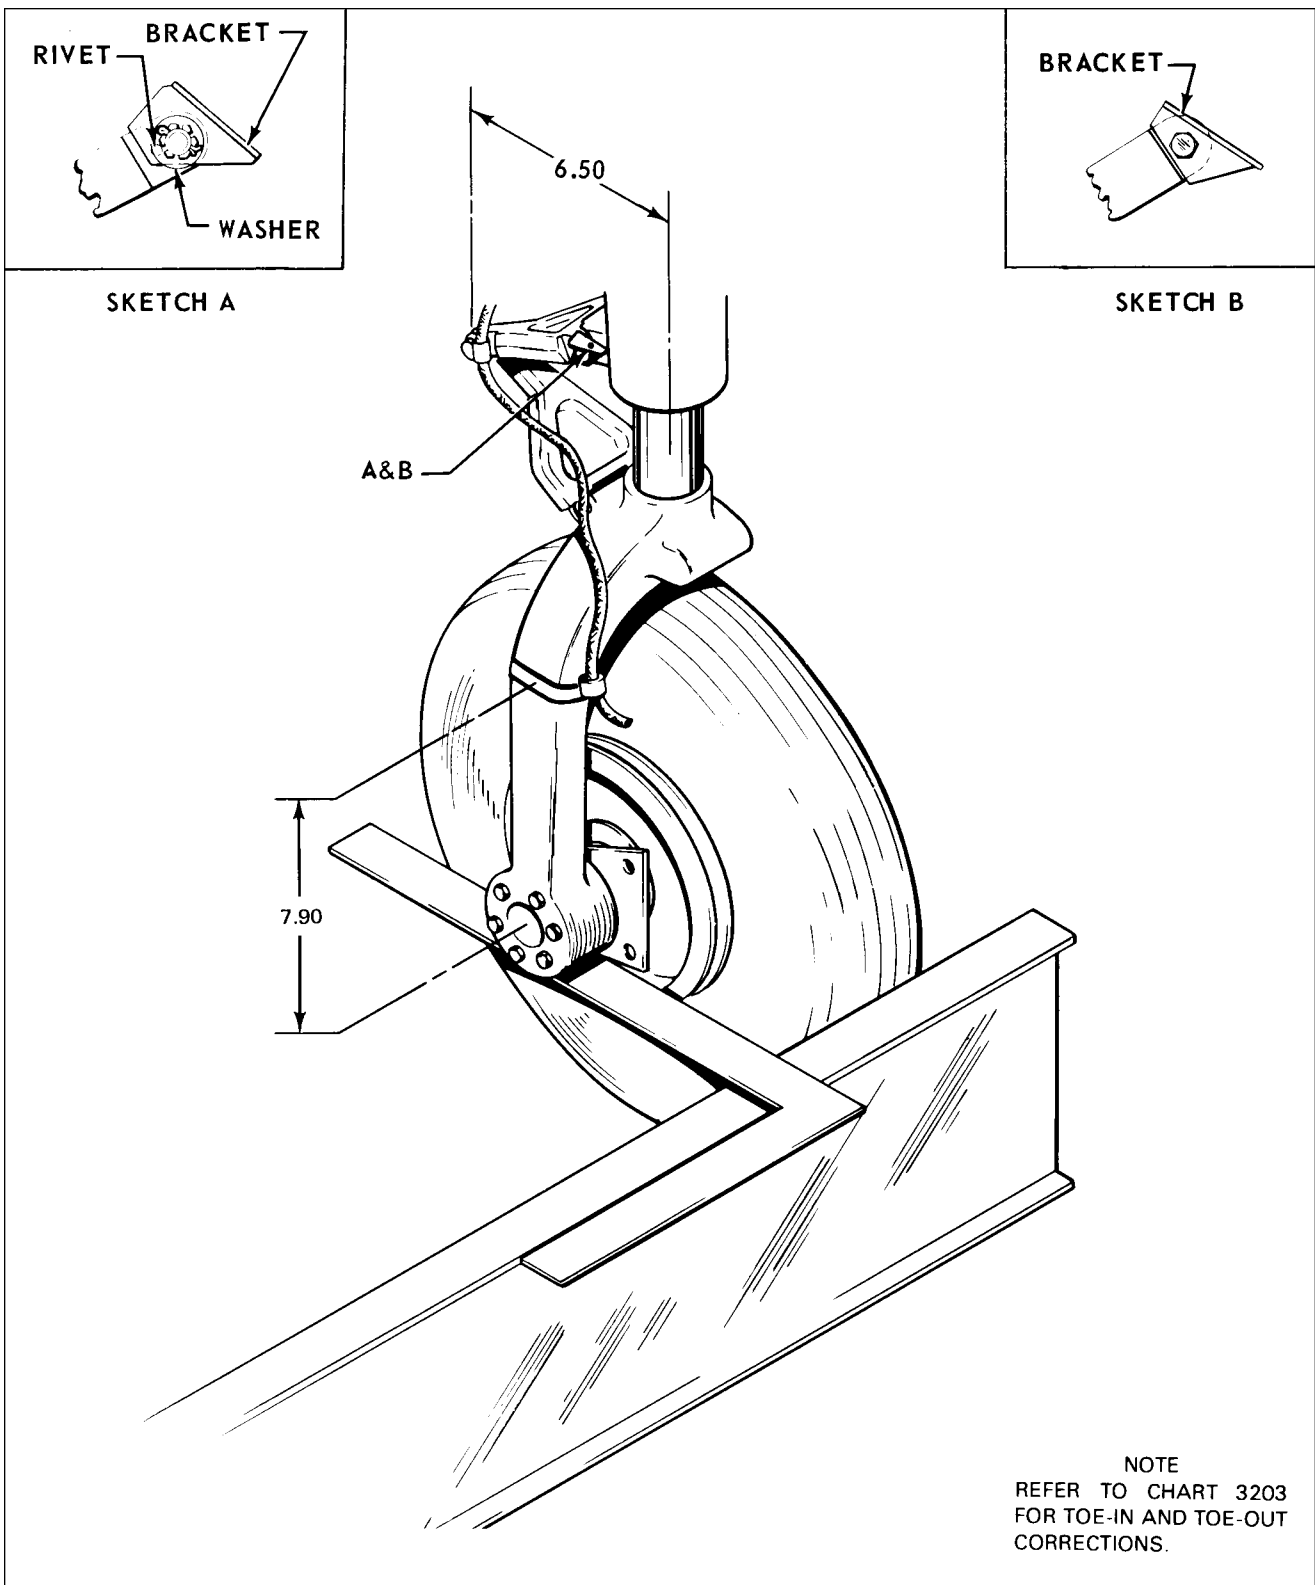

Figure 32-3a. Aligning Main Gear
1. Place a straightedge no less than twelve feet long across the front of both main landing gear wheels. Butt the straightedge against the tire at the hub level of the landing gear wheels. Jack the airplane up just high enough to obtain a six and one-half inch dimension between the centerline of the strut piston and the centerline of the center pivot bolt of the gear torque links. (Refer to Figure 32-3a.) Devise a support to hold the straightedge in this position.
2. Set a square against the straightedge and check to see if its outstanding leg bears on the front and rear side of the brake disc. (It may be necessary to remove the brake assembly to have clear access to the disc.) (Refer to Figure 32-3a.) If it touches both forward and rear flange, the landing gear is correctly aligned. The toe-in for the main landing gear wheels is $0 \pm 1/2$ degrees.
7. If a new link on the top left main gear had to be installed or it had to be reversed during the alignment check, it will be necessary to check the gear safety switch (squat switch) bracket for engagement and locking in place. If the large machine surface of the link is inboard, the bracket is mounted with the small rivet hole next to link. (Refer to Sketch "A," Figure 32-3a.) This should be aligned on the centerline of link and hole drilled to .096 of an inch, .15 of an inch deep. Insert an MS20426AD3-3 rivet in the hole. This locking rivet is held in place by the flat washer, castellated nut and cotter pin. If link has to be reversed, then the bracket and bolt are also reversed. (Refer to Sketch "B," Figure 32-3a.)